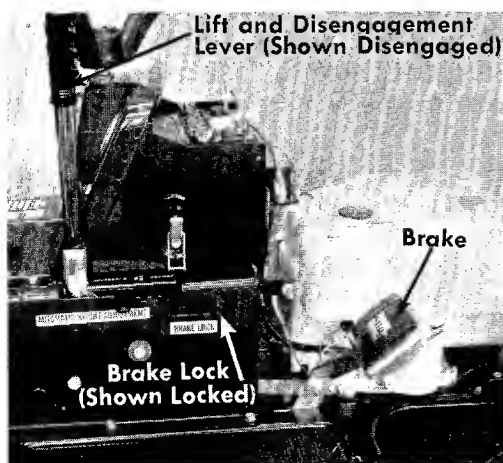

FIGURE 9. RIGHT HAND CONTROLS
c. Brake. The brake pedal is located on the right hand side of the mower and is operated by depressing it with your right foot. See figure 9.
d. Brake Lock. The brake lock is located on the right hand side of the mower. To lock the brake, depress the brake pedal and lift up the lock button. The pedal will stay depressed. To release, depress the pedal. See figure 9.
j. Lift and Disengagement Lever. It is used to raise the cutting deck. Pulling it all the way back and locking it disengages the blades. The engine will not start unless the lift and disengagement lever is in the disengaged position. See figure 9.
Step 3. Place the lift and disengagement lever in the DISENGAGED position. See figure 9.
To stop the blades, move the lift and disengagement lever (figure 9) into the DISENGAGED position. This raises the deck and disengages the blades.